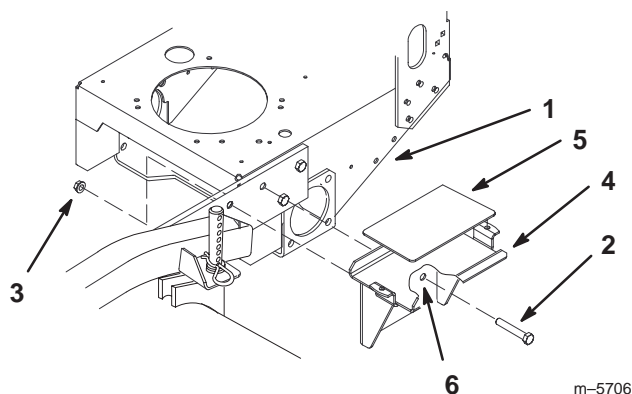

Figure 14
5. Mount battery holder to the left side of machine with 2 bolts ($\frac{1}{2}$ x $1\frac{3}{4}$ inch) and 2 nuts ($\frac{1}{2}$ inch) (Fig 14).
6. Peel off the backing from battery pad and affix the pad to the battery holder (Fig 14). The rubber battery pad should be centered on battery holder.